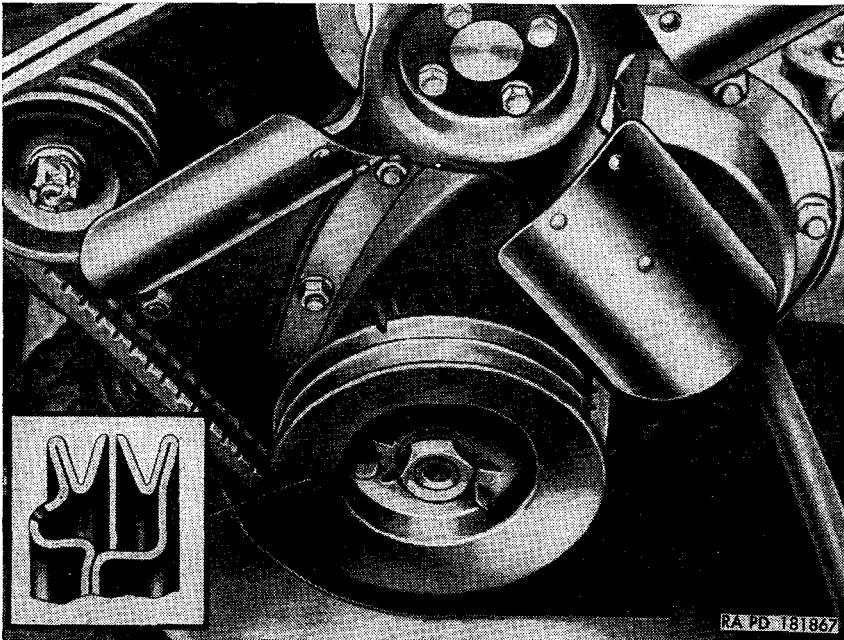
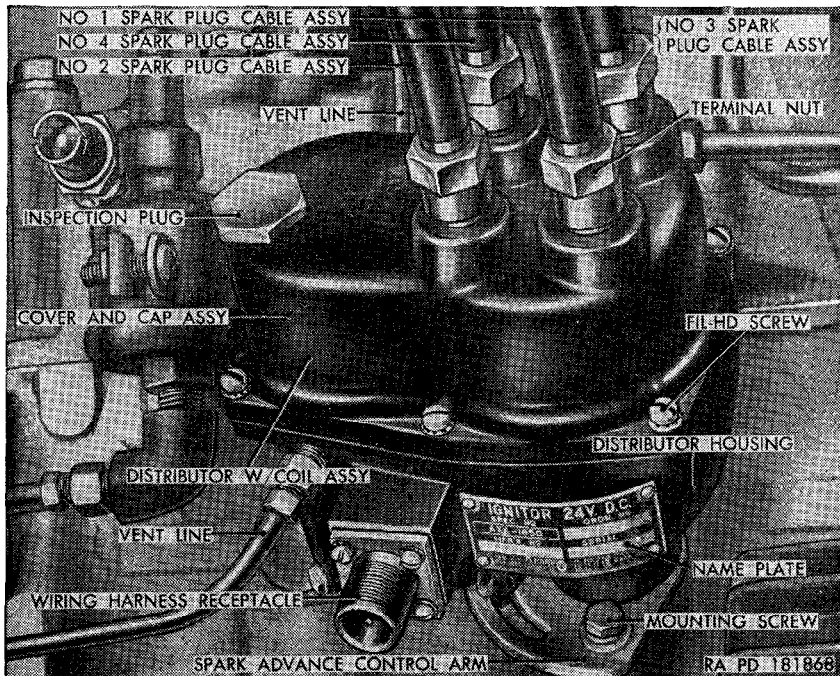
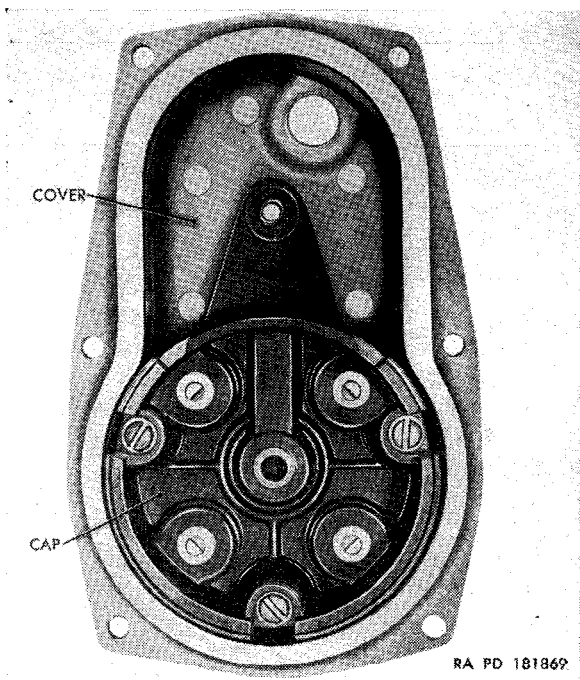
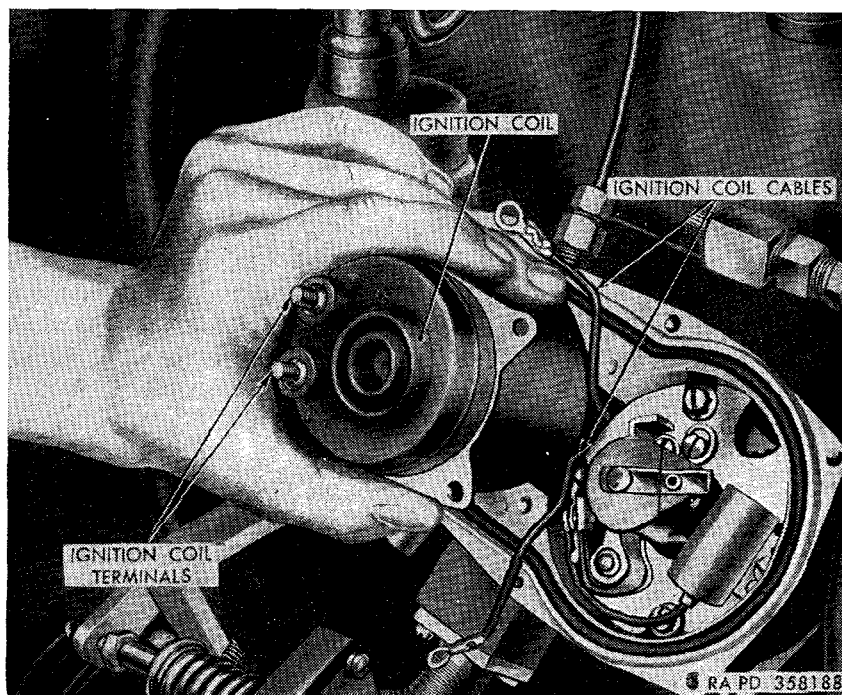

Figure 78. Timing marks.
Figure 79. Distributor with coil assembly—installed—wiring harness removed.
Figure 80. Distributor cap installed in cover.
Figure 84. Ignition coil removal.
a. Mark the position of the No. 1 spark plug cable assembly (fig. 79) on the side of the distributor with coil assembly, to aid in positioning the distributor rotor during approximate timing. Adjust the breaker point set (par. 151b(1)) but do not install the cover and cap assembly.
b. Loosen the mounting screw securing the distributor with coil assembly to the spark advance control arm (fig. 79). With the distributor rotor (fig. 81) pointed toward the mark showing position of No. 1 spark plug cable assembly (a above), turn the distributor counterclockwise until the breaker points are closed. Slowly turn the distributor clockwise until the points start to open. Tighten the mounting screw (fig. 79). Place the cover and cap assembly on the distributor and secure with six No. 10 x  $\frac{11}{16}$  fillister-head, internal-teeth lockwasher screws.
d. Start the engine and run at idling speed. Direct the timing light beam on the "5" timing mark on the timing gear cover (fig. 78). The timing mark should be alined with the crankshaft pulley (fig. 78) notch. If not, loosen the mounting screw (fig. 79) securing the distributor with coil assembly to the spark advance control arm. Turn the distributor until the timing mark and hole are alined. Tighten the mounting screw.
## 150. Distributor With Coil Assembly (fig. 79)
- (1) *Removal.* Mark the spark plug cable assemblies (fig. 79) for identification. Unscrew the four terminal nuts securing the spark plug cable assemblies to the cover and cap assembly and disconnect the cable assemblies. Unscrew and remove the six fillister-head screws securing the cover to the distributor. Remove the cover and cap assemblies. Remove three bolts and lockwashers securing cap to cover (fig. 80). Remove cap.
- (2) *Installation.* Position cap in cover (fig. 80) and secure with three No. 8 x 1 bolts and internal-teeth lockwashers. Position the cover and cap assembly on the top of the distributor (fig. 79). Insert six No. 10 x  $\frac{11}{16}$  fillister-head internal-teeth lockwasher screws into the six threaded holes in the top of the distributor and tighten the screws. Connect the spark plug cable assemblies to the cover by screwing the terminal nuts onto the cover. Be certain cables are installed in correct firing order.
- (e) Place the rotor (fig. 81) on the cam. Position the cover with the cap (fig. 79) on the distributor and secure the cover to the distributor with six No. 10 x  $\frac{11}{16}$  fillister-head internal-teeth lockwasher screws.
(a) Unscrew and remove the six fillister-head screws securing the cover to the distributor, and remove the cover and cap assemblies (fig. 79). Lift the rotor (fig. 81) off the shaft cam end.
(2) *Installation.* Position the breaker point capacitor (fig. 81) on the breaker plate and secure it with one No. 6 x  $\frac{3}{16}$  screw and  $\frac{3}{16}$ -inch internal-teeth lockwasher. Slip the capacitor cable terminal onto the screw securing the breaker lever spring clip to the breaker lever terminal and tighten the screw. Position the rotor on the cam and the cover and cap assembly (fig. 79) on the distributor and secure with six No. 10 x  $\frac{11}{16}$  fillister-head internal-teeth lockwasher screws.
(1) *Removal.* Unscrew and remove the six fillister-head screws securing the cover to the distributor housing, and remove the cover and cap assembly (fig. 79). Remove nuts, washers, and terminals of the ignition coil (fig. 81). Remove the two bolts, lockwashers, and clips securing the ignition coil. Remove the ignition coil. Remove the four lockwasher screws securing the wiring harness receptacle to the distributor housing. Unscrew the nut (X, fig. 54) securing the primary cable to the wiring harness receptacle and pull the cable from the receptacle. Pull the receptacle and primary capacitor from the distributor housing and separate the receptacle from the capacitor.
Position and secure the ignition coil primary cable to the coil mounting bracket with clip, No. 10 lockwasher, and a No. 10 x  $\frac{7}{16}$  bolt. Secure the ignition coil to the housing with another No. 10 lockwasher and No. 10 x  $\frac{7}{16}$  bolt. Insert the primary cable plug into the wiring harness receptacle. Start the nut onto the receptacle threads and tighten. Position the cover and cap assembly (fig. 79) on the top of the distributor housing and secure with six No. 10 x  $1\frac{1}{16}$  fillister-head, internal-teeth lockwasher screws.
- (1) Unscrew and remove the six fillister-head screws securing the cover to the distributor housing, and remove the cover and cap assembly (fig. 79).
- (2) Remove the two nuts, washers, and cable terminals on the two ignition coil terminals studs. Remove the two bolts, lockwashers, and cable clips securing the ignition coil mounting bracket and cables to the distributor housing.
- (3) Lift ignition coil (fig. 84) with mounting bracket from the distributor with coil assembly.
- (3) Place the cover and cap assembly (fig. 79) on the top of the distributor housing and secure with six No. 10 x  $\frac{11}{16}$  fillister-head, internal-teeth lockwasher screws.
- (1) Mark the spark plug cable assemblies (fig. 79) for identification. Unscrew the four terminal nuts securing the spark plug cable assemblies to the distributor cover and cap assembly and disconnect the cable assemblies.
- (2) Start the terminal nuts onto the distributor cover and cap assembly (fig. 79) threads, making certain the correct firing order is maintained.
- (3) Aline the cables to avoid kinks or sharp bends. Tighten the terminal nuts.